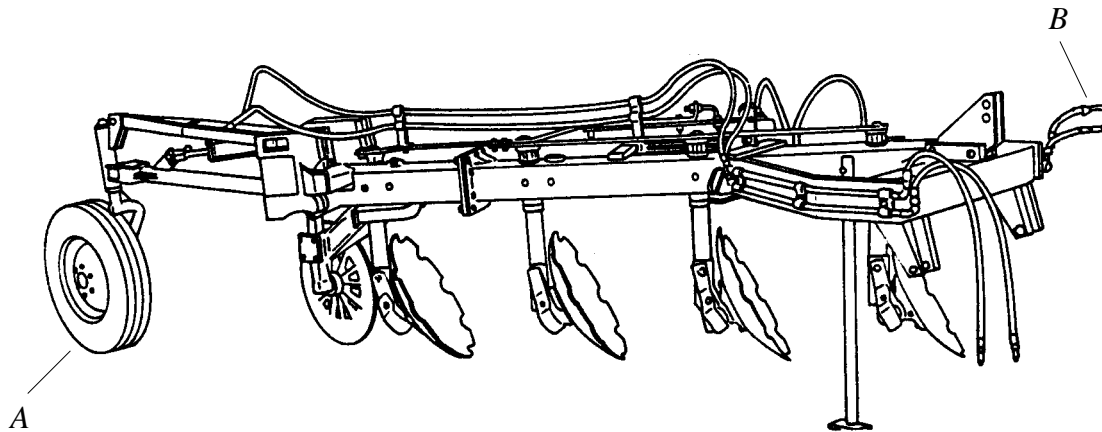

FIG. 3
- (q) Give the full name of the implement shown in Figure 3.
- (r) What is the main purpose of the implement shown in Figure 3?
- (s) Name and give ONE advantage and ONE disadvantage of the disk shape shown in Figure 3.
- (v) Give TWO functions of the wheel at A in Figure 3.
(w) There are two hoses indicated at B in Figure 3.